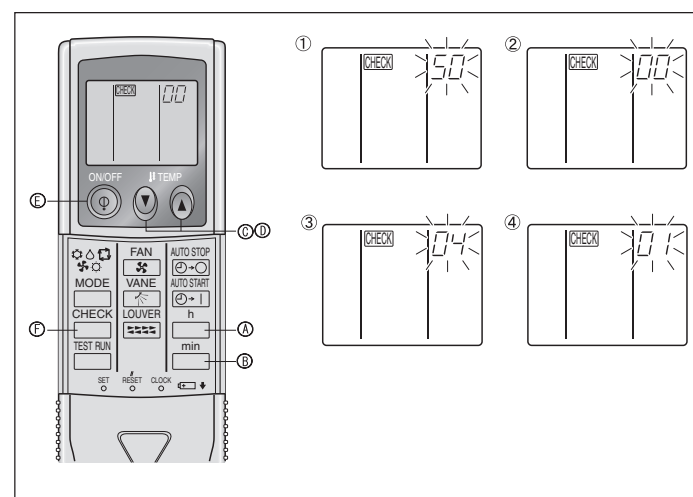

Fig. 6-15
6.3.2. By IR wireless remote controller (Fig. 6-15)